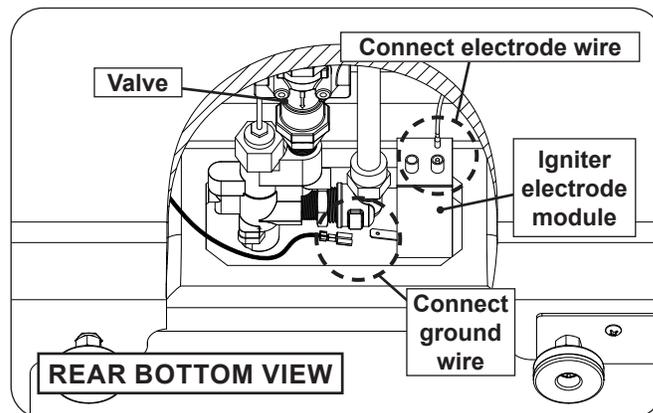

Fig. 34-3 Connect wires to electrode module
6. Locate the electrode wire and connect it to the round-pin terminal found on the back of the igniter electrode module. Then locate the ground wire and connect it to the 1/4" quick connect found on the side of the igniter electrode module (just behind the plate). See Fig. 34-3.